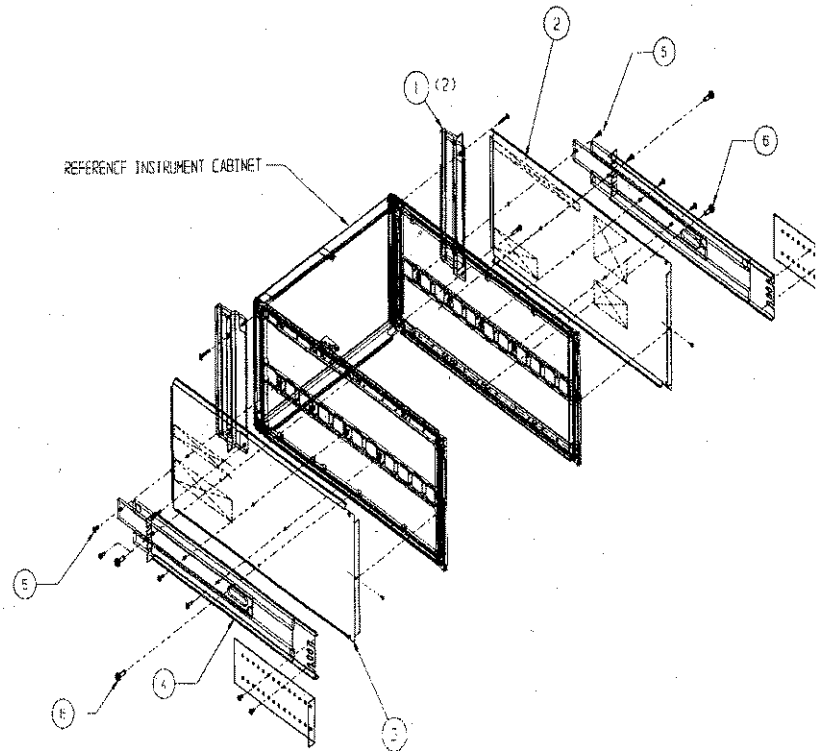

Figure 2-2 Rails
- Step 8. Secure the new left cover (2) from this retrofit kit to the left side chassis of the instrument by installing the two center screws (6) to the top and bottom and the previously removed center screw at the rear of the left cover.
- Step 9. Secure the slide assembly (4) to the left cover by installing the four mounting screws (5) to the left chassis. (Figure 2-2).